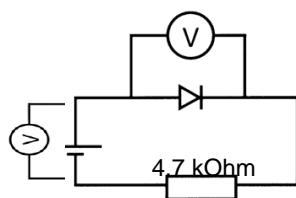

Fig. 4
3. To measure the blocking voltage for the Zener and avalanche effects with the set-up illustrated in Fig. 4. However, the diodes have already been wired in the blocking direction through their placement in the immersion probe set.